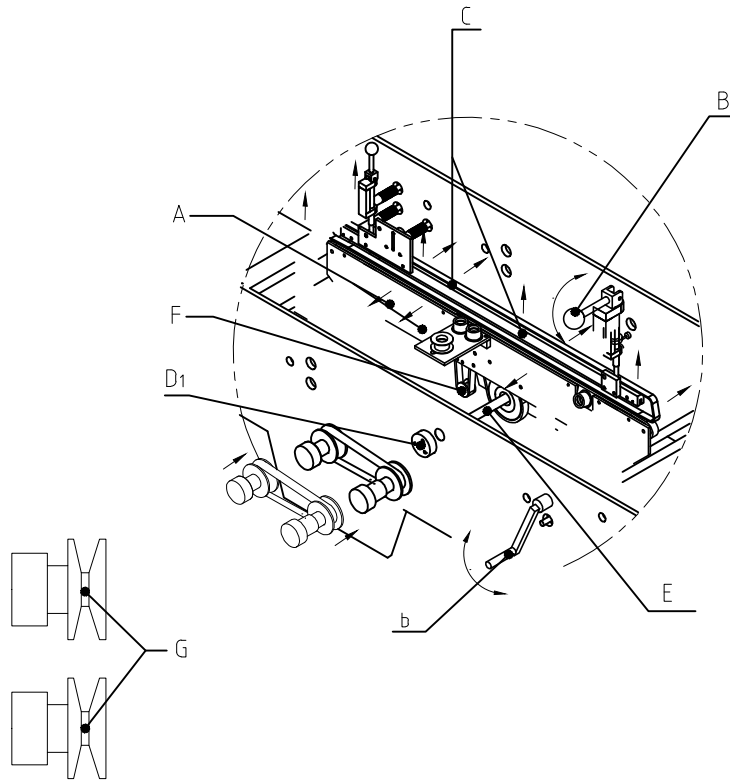
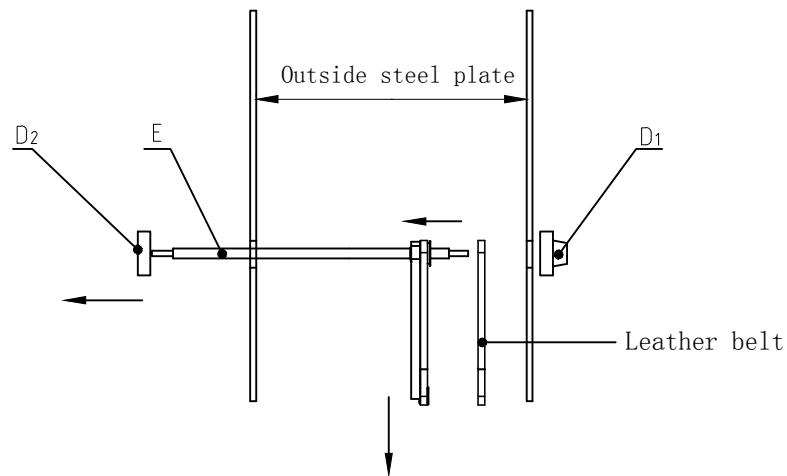
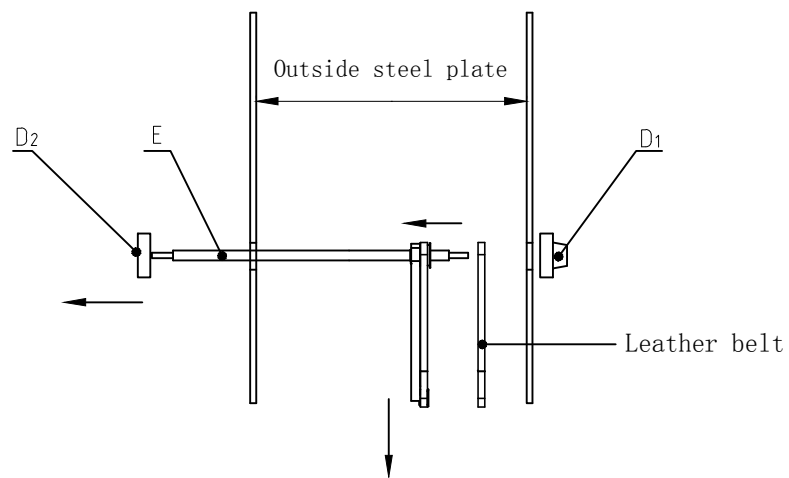
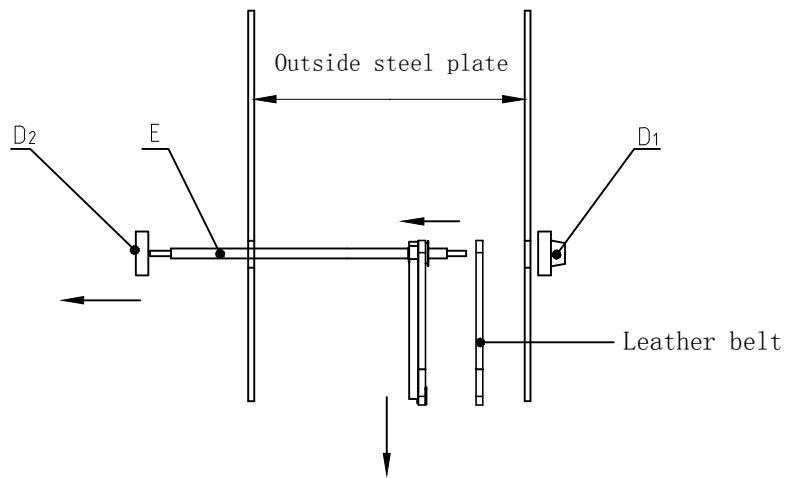

Fig 2-1
Fig 2-2
Fig 3-2
Fig 4-2
- ① Press down the jiggle bar (B) to raise subassemblies of pre-folding unit, separate the pre-folding base by jiggle bar b, see Fig.2-1.
- ② Loosen bearing D2, fetch out the shaft level E, loosen the tightening screw F (Fig.2-1-F). Take the belt out and replace it, see Fig.2-2. Then reset the position of each part as original. And fasten them.
- ③ loosen the 2 change spur gears off , and hold them away from the 2 axes of rotation , change the strap under unrestricted condition, afterwards, fix the gears to where they were in the opposite way of loosening off. (see picture 1)
- ② Loosen bearing D2, fetch out the shaft level E, loosen the tightening screw F (Fig.2-1-F). Take the belt out and replace it, see Fig.3-2. Then reset the position of each part as original. And fasten them.
- ② Loosen bearing D2, fetch out the shaft level E, loosen the tightening screw F (Fig.2-1-F). Take the belt out and replace it, see Fig.4-2. Then reset the position of each part as original. And fasten them.